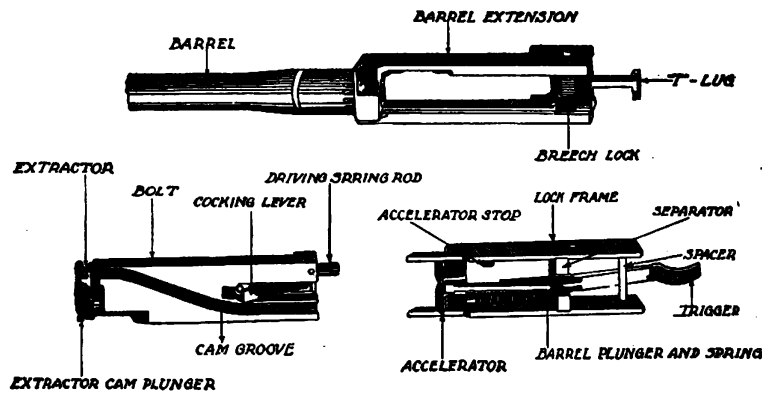

FIGURE 35.—Barrel, bolt, and lock frame groups.
Q. Point out and state the uses of the important parts shown in figure 35. A. See figure 35.